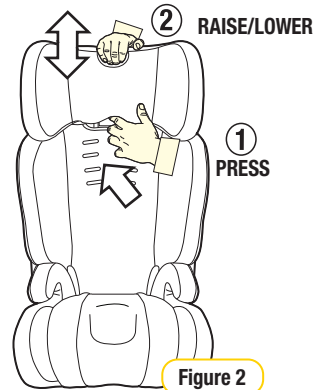

Figure 2
**Release** the button to lock the mechanism (refer to Figure 2).